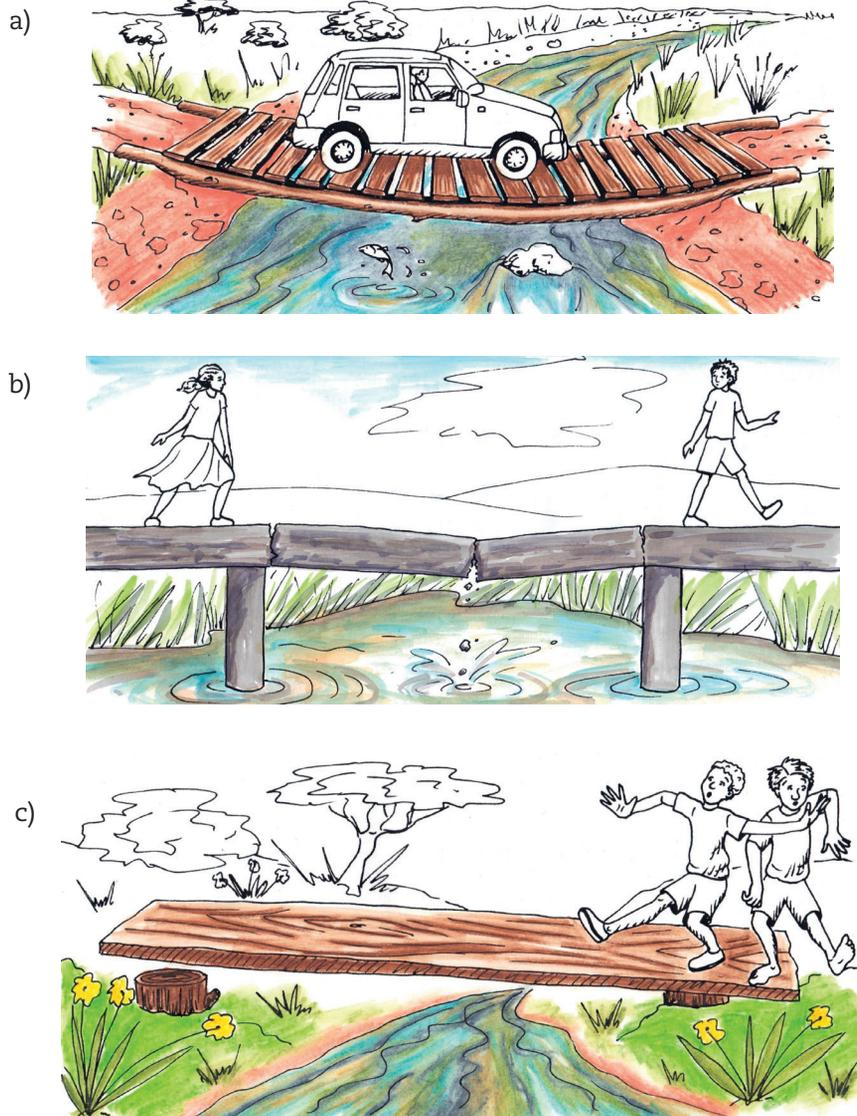

Figure 24
5. The pictures in Figure 24 show different ways that bridges can fail. Describe what went wrong in each of the three cases, and how it could be prevented from happening again.